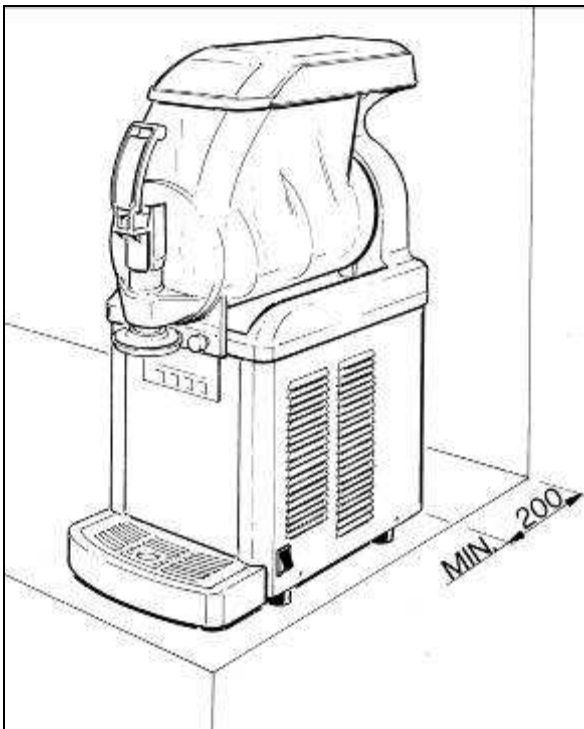

Fig. 2
b) Rest the machine on a sturdy, flat surface making sure it is well ventilated by leaving a gap of 20 cm around it and do not install it near heat sources (fig.2); **we recommend you to maintain a room temperature between 24 and 32°C.**